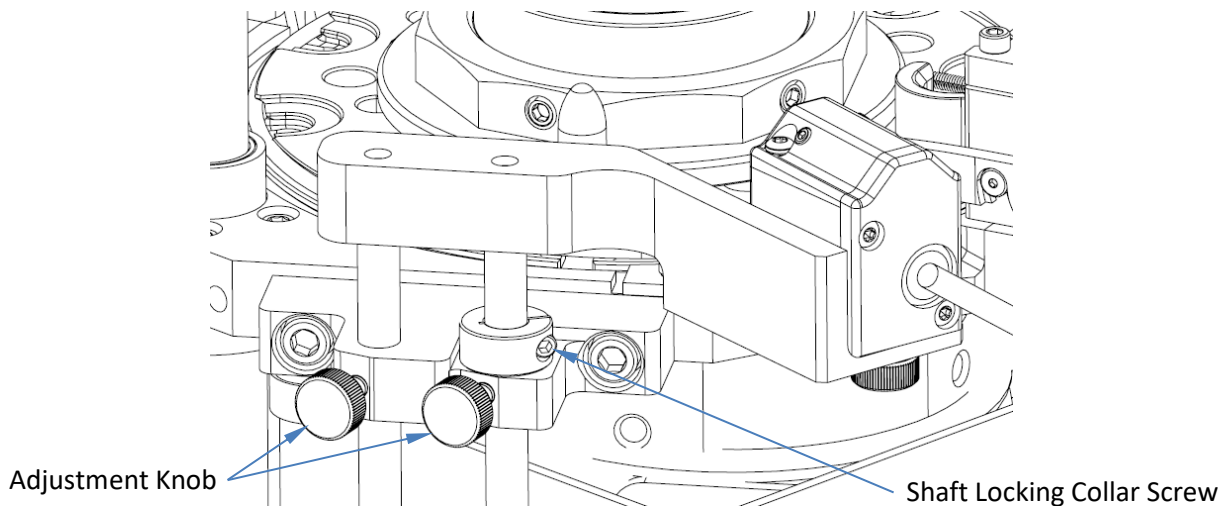

Figure 6: Locking height adjustment in place.
9. Loosen 2X Adjustment Knobs (see Figure 6) gently position the upper mount so the laser beam goes OVER the tip of the bullet and hits the mirror, the reflected beam should return and hit the tip of the bullet so the beam path is broken as shown below. Put a white card above the bullet and adjust the mount so there is a slight gap between the tip of the bullet and where the beam is positioned as show.